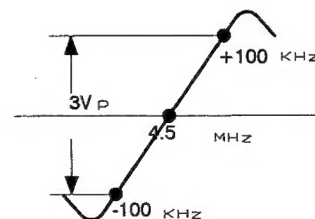

Fig.7
2. Adjust T303 so that sound carrier is centered as in Fig.7.
3. Confirm the waveform as in Fig.7.